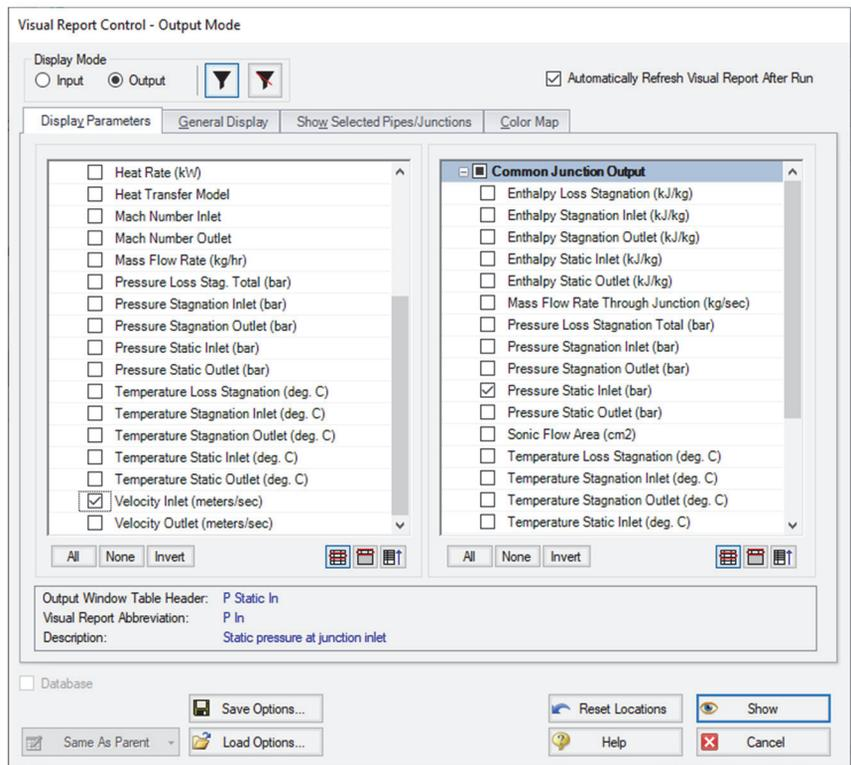
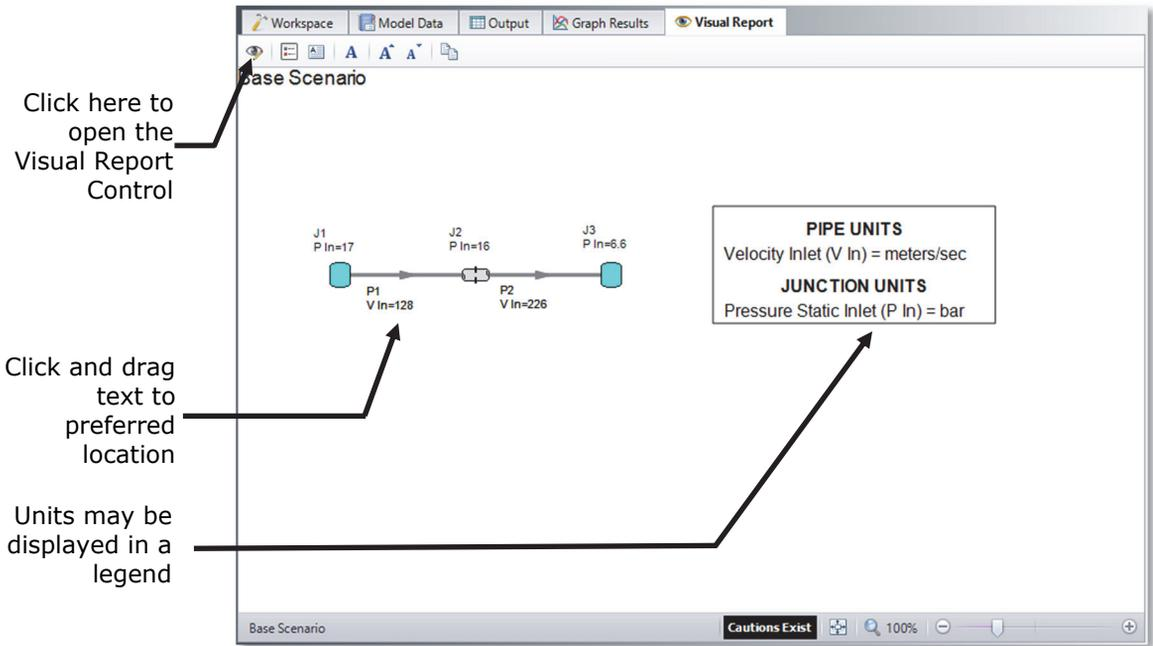

Figure 2.19 The Visual Report Control window selects content for the Visual Report window
Figure 2.20 The Visual Report integrates results with model layout
- Click the **Visual Report Control** button on the **Visual Report Toolbar** (or Tools menu) and open the Visual Report Control window, shown in Figure 2.19. The Visual Report Control window will open by default when you first open the Visual Report window. Select **Velocity Inlet** in the Pipe Results area and **Pressure Static Inlet** in the Junction Results area. Click the Show button. The Visual Report window graphic is generated (see Figure 2.20).
It is common for the text in the Visual Report window to overlap when first generated. You can change this by selecting smaller fonts or by dragging the text to a new area. You can also use the Visual Report Control window to display units in a legend to increase the clarity of the display. These adjustments have already been done in Figure 2.20. This window can be printed or copied to the clipboard for import into other Windows graphics programs, saved to a file, or printed to an Adobe PDF file.